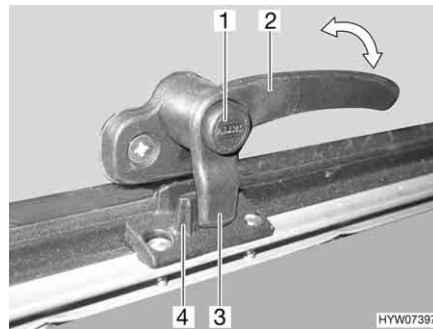
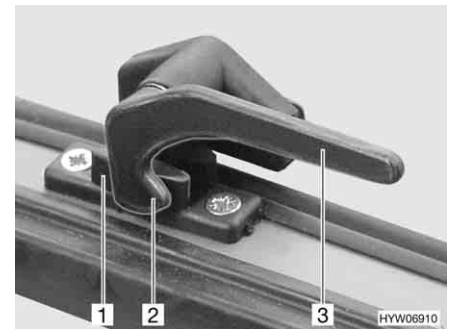

Fig. 73 Catch lever with safety knob in "closed" position
Fig. 74 Catch lever in "closed" position
- Press and hold the security button (Fig. 73,1), if present.
- Turn the catch lever (Fig. 73,2 or Fig. 74,3) a quarter turn towards the centre of the window.
- Turn the catch lever (Fig. 73,2 or Fig. 74,3) a quarter turn towards the window frame. The locking catch (Fig. 73,3 or Fig. 74,2) on the catch lever is entirely on the inner side of the window catch (Fig. 73,4 or Fig. 74,1).
- "Firmly closed" (Fig. 73 and Fig. 74)